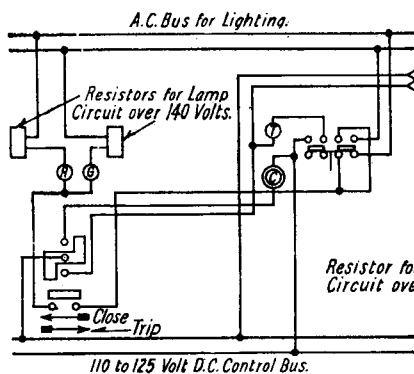

FIG. 27
**Note—Figs. 27 to 33 are Wiring Diagrams for Solenoid-Operated Circuit-Breakers**